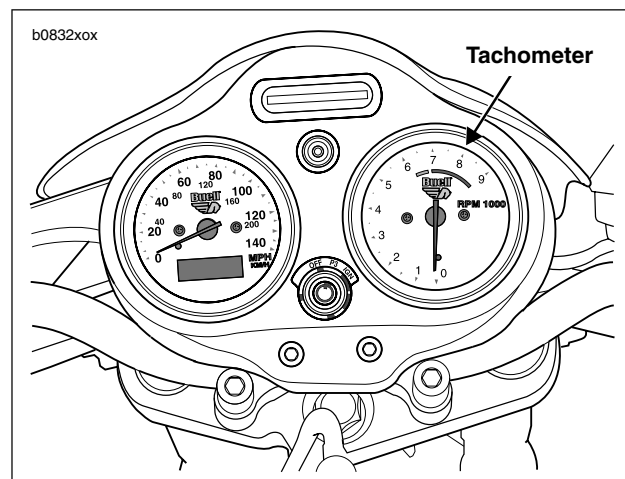

Figure 1-49. M2/M2L Tachometer
4. See Figure 1-49. Monitor engine speed by observing tachometer.